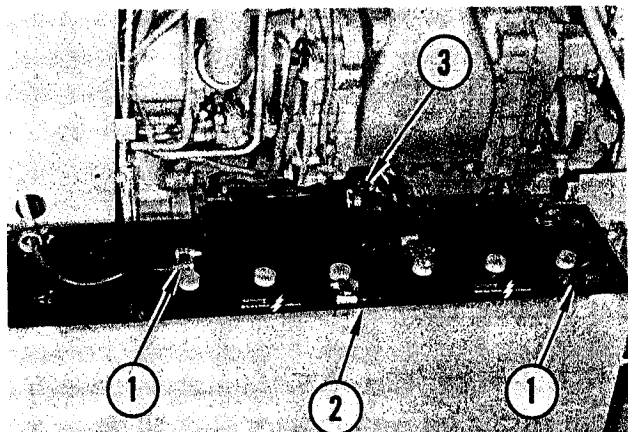

FIGURE 3. BATTERY REMOVAL
Remove battery box cover. Loosen bolts in battery terminal cable clamps (1). Refer to Figure 3. Expand terminals slightly and lift clamp from positive and negative posts. Do not exert force to free clamps as this may damage batteries.